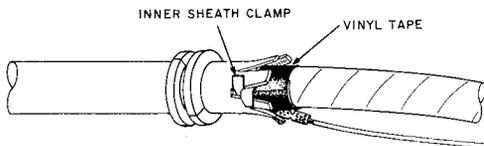

Fig. 17—Inner Sheath Clamps Positioned
3.12 Slip the inner sheath clamp under the tabs with the ears extending from the slot from which the half tab was removed (Fig. 17). If a small cable is to be installed in the splice case, an inner cable sheath clamp of the proper size will be furnished with the adapter assembly. The table for adapter sizes is shown in Fig. 5.